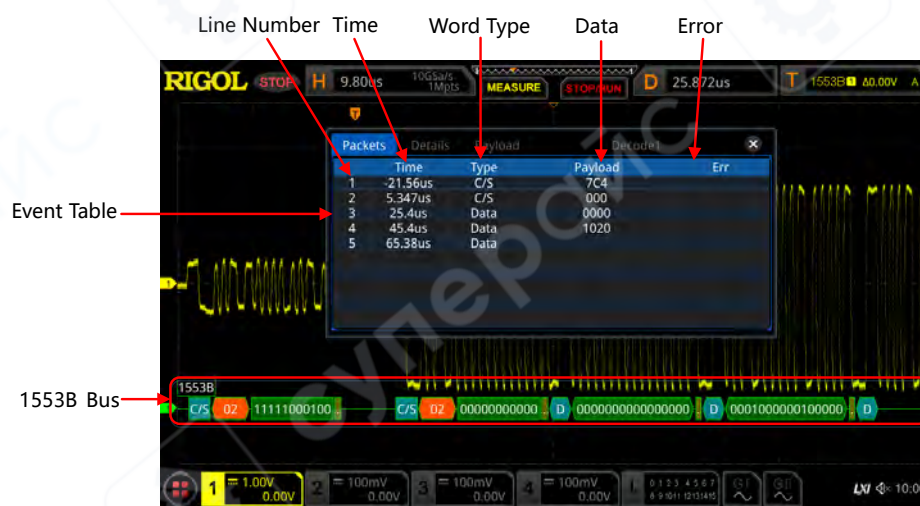

Figure 15.15 1553B Decoding Event Table
- Open or close the event table: Press **Event Table** continuously to enable or disable the display of the event table. When enabled, the following event table as shown in *Figure 15.15* is displayed. You can also enable the touch screen to tap the icon  at the right-upper corner of the event table to close it.